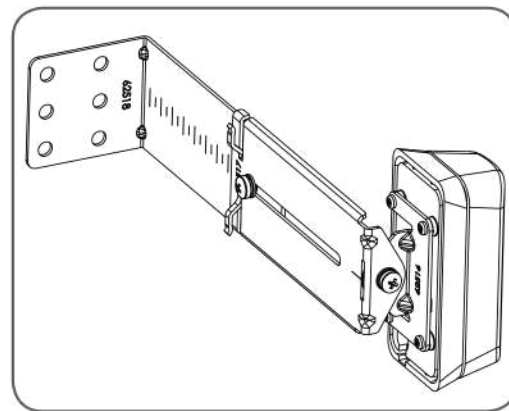

fig 50
- Make horizontal and/or vertical (**Fig. 50**) adjustment on the transmitter and/or receiver until the red LED turns off on the receiver, indicating alignment.